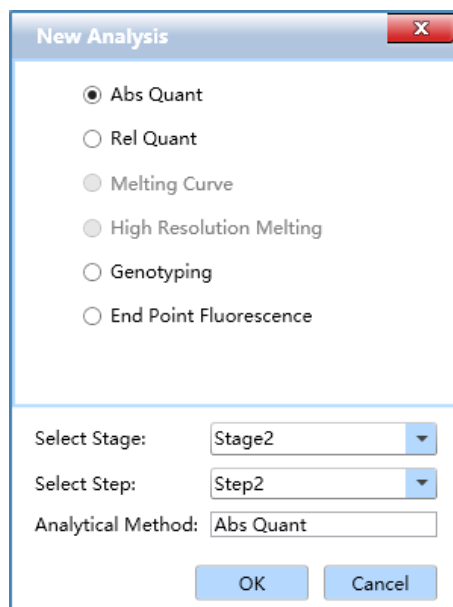

Figure D-8. New Analysis Window
- User can click <  **New Analysis** > icon in Tool Bar and the application software will automatically pop up the new analysis window, as shown in figure D-8.